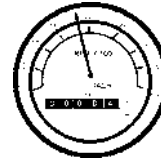

**Figure 46. Oil Pressure Gauge**
10. The engine oil pressure gauge (Figure 46) will indicate the oil pressure of the engine. Under normal operating conditions the oil pressure is approximately 28 to 85 psi. (193~586 kPa).